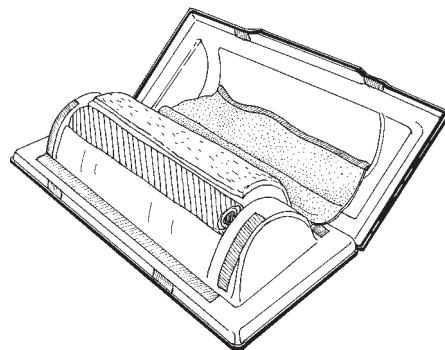

fig 14
6. In the final position ensure that the opening along the tube is pointing downwards **fig 14.**